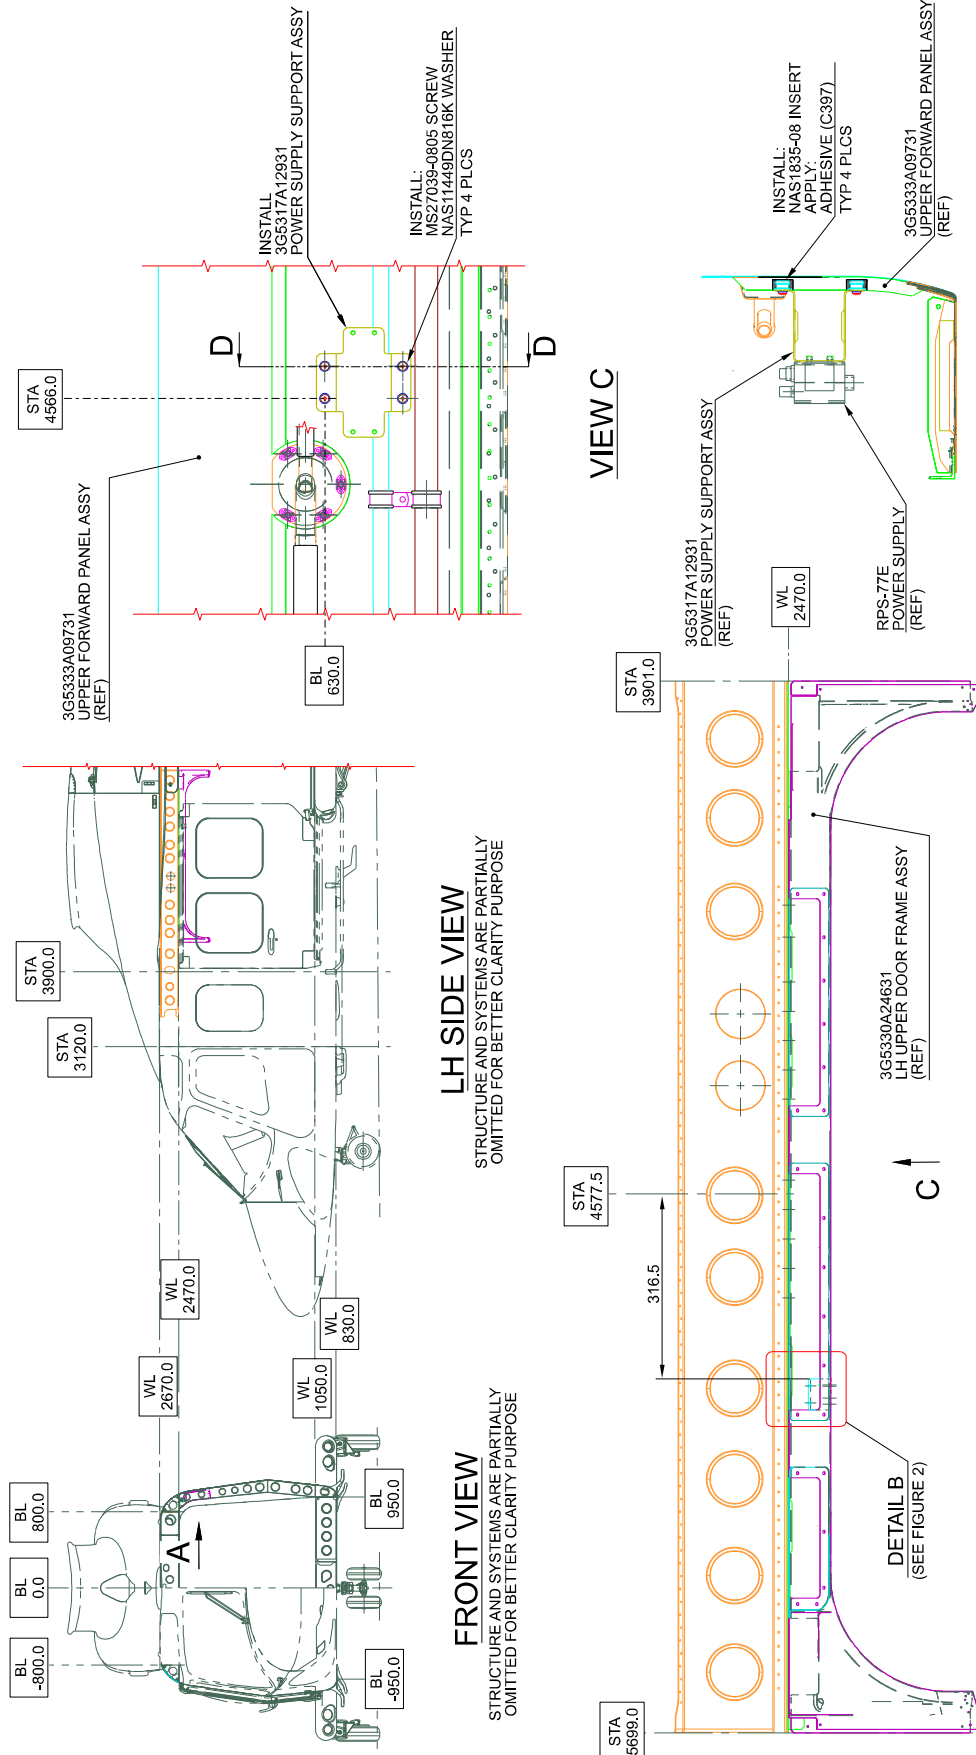
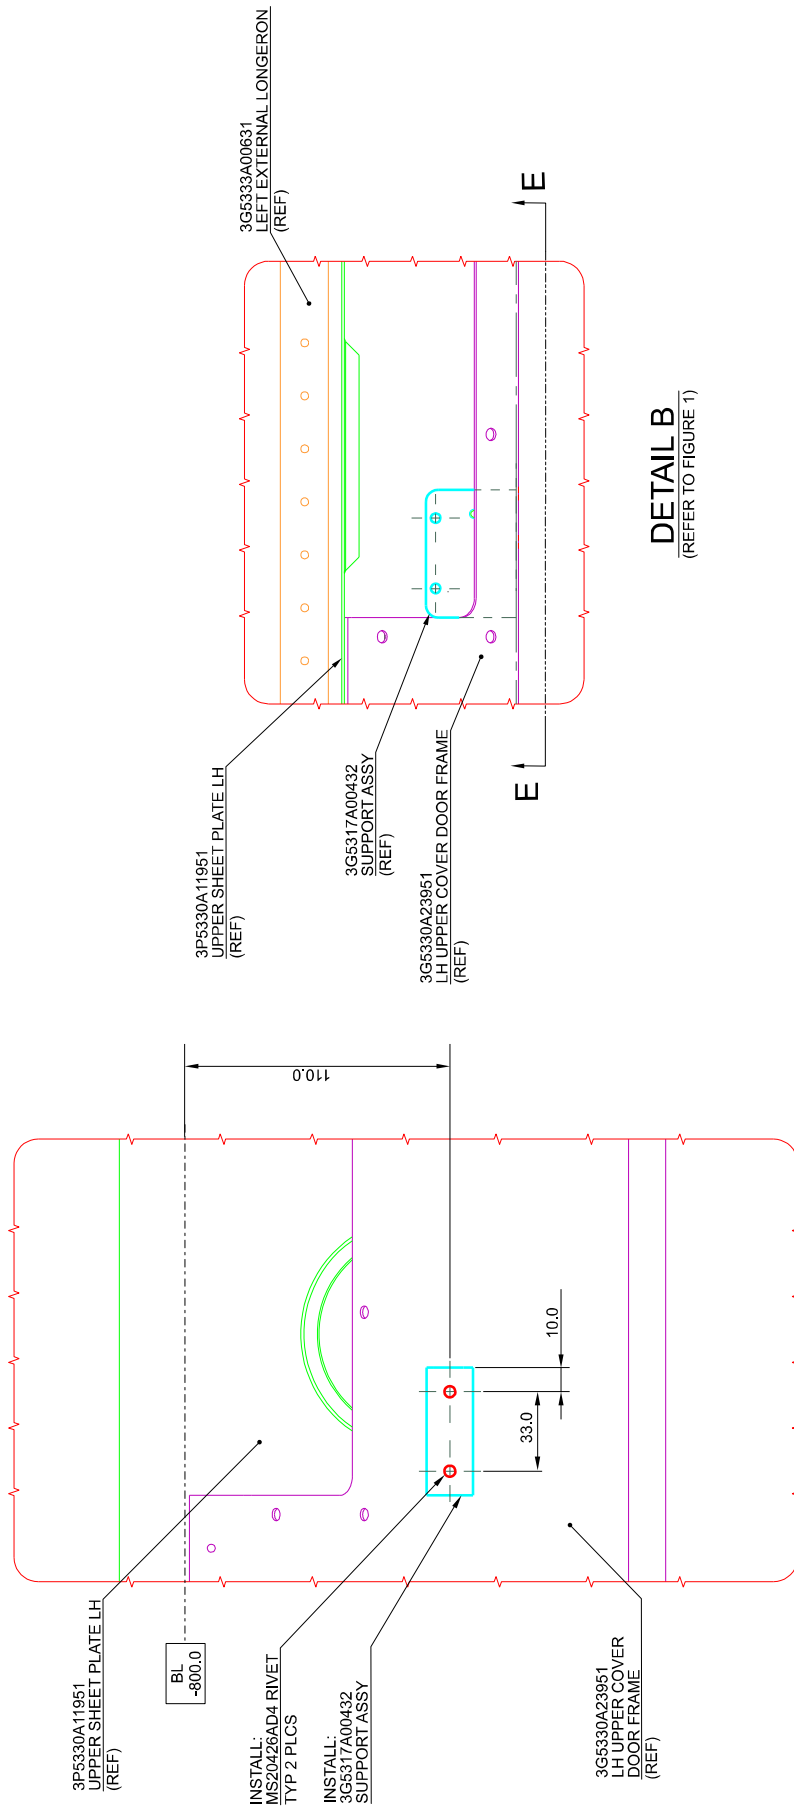

Figure 1
Figure 2
2. In accordance with DM DM0139-A-06-41-00-00A-010A-A and with reference to Figures 1 thru 8, gain access to the area affected by the installation and perform complete provision P/N 3G9750A01411 as described in the following procedure:
- 2.1.1 With reference to Figure 1 View C, temporarily locate the power supply support assy P/N 3G5317A12931 on the upper forward panel assy P/N 3G5333A09731 and countermark n°4 hole positions in accordance with the dimensions shown.
- 2.1.2 With reference to Figure 1 View C and Section D-D, drill n°4 holes $\varnothing 17.42 \div 17.55$ thru the upper forward panel assy P/N 3G5333A09731 in the previously countermarked positions.
- 2.1.3 With reference to Figure 1 Section D-D, install n°4 inserts P/N NAS1835-08 on the structure by means of Adhesive (C397).
- 2.1.4 With reference to Figure 1 View C, install the power supply support assy P/N 3G5317A12931 on the upper forward panel assy P/N 3G5333A09731 by means of n°4 screws P/N MS27039-0805 and n°4 washers P/N NAS1149DN816K. In accordance with DM 39-A-20-00-00A-711A-A, tighten the four screws to the standard torque value.
- 2.1.5 With reference to Figure 1 View A and Figure 2, temporarily locate the support assy P/N 3G5317A00432 on the LH upper cover door frame assy P/N 3G5330A23951 and countermark n°2 hole positions in accordance with the dimensions shown.
- 2.1.6 With reference to Figure 2 Section E-E, drill n°2 rivet holes thru the LH upper cover door frame assy P/N 3G5330A23951 in the previously countermarked positions.
- 2.1.7 With reference to Figure 2 Section E-E, install the support assy P/N 3G5317A00432 on the LH upper cover door frame assy P/N 3G5330A23951 by means of n°2 rivets P/N MS20426AD4.